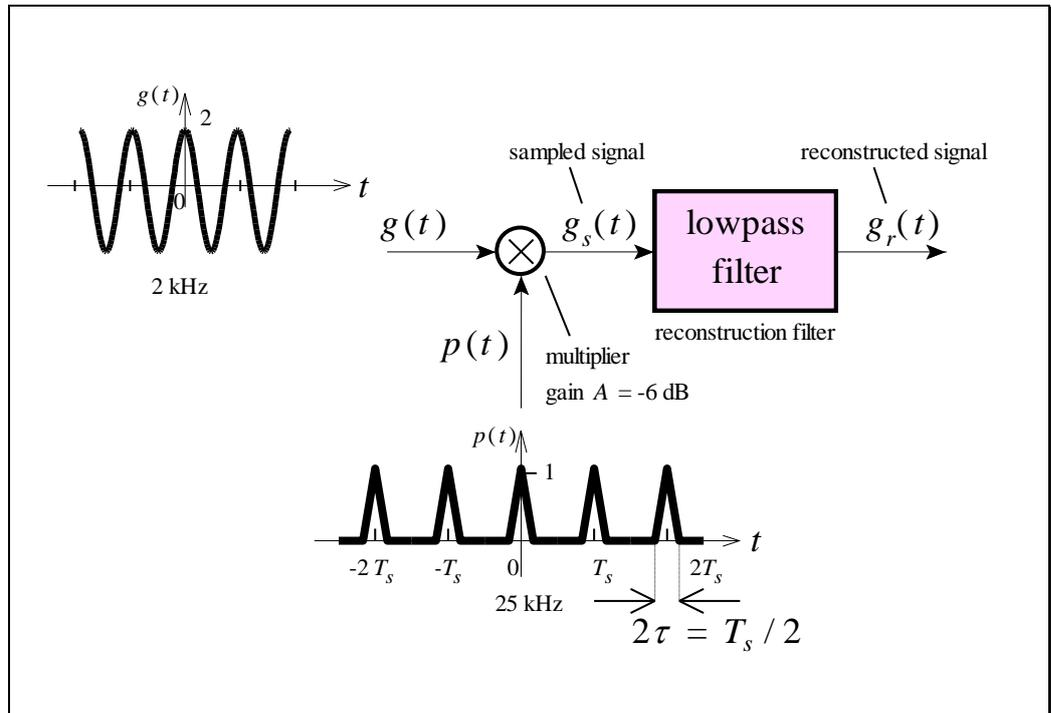

Figure L2.4
2. Perform a MATLAB® simulation of the sampling / reconstruction scheme shown in Figure L2.4, showing ALL labelled signals as both a **time-domain waveform** and a **magnitude spectrum**:
3. Construct a wiring diagram for the TIMS trainer that implements the scheme shown in Figure L2.4.